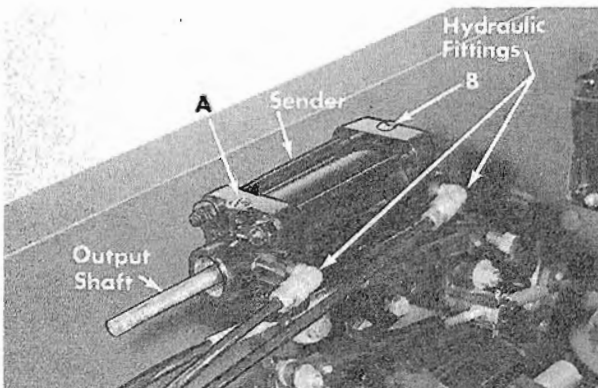

Figure 4. Bleed Screw Locations
- a. Remove bleed screw "B". (Figure 4)
- c. Remove bleed screw "A". (Figure 4)